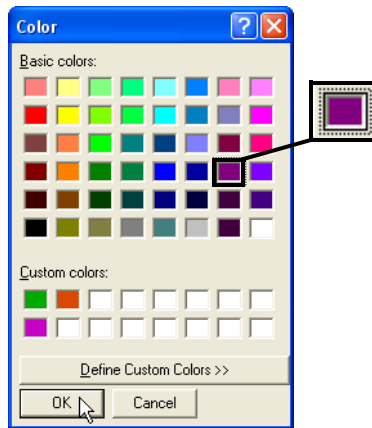

Figure 3-13. Select Layer's Color
2. Select a color from the **Color** dialog box and click **OK** (Figure 3-13 on page 3-11).